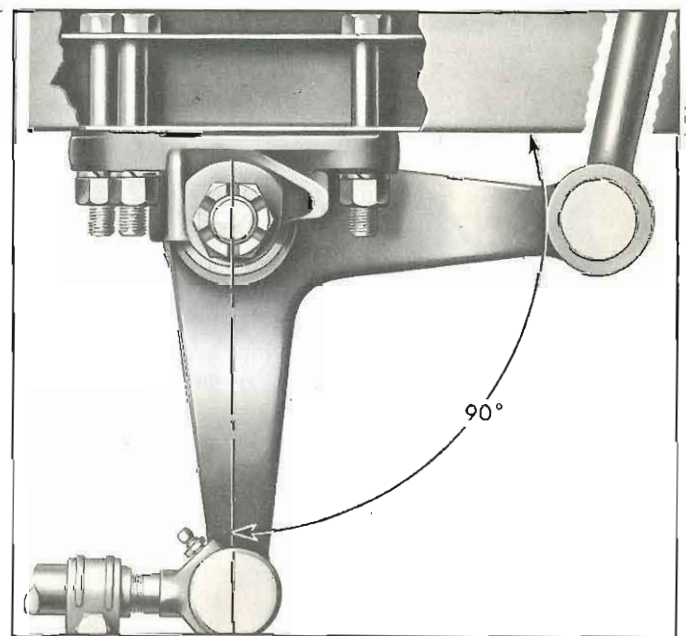

Fig. 4-12—Angle of Relay Arm-to-Frame
2. Without altering either the front wheel or steering wheel position, check the relationship between the forward lever of the relay arm (fig. 4-12) and the frame